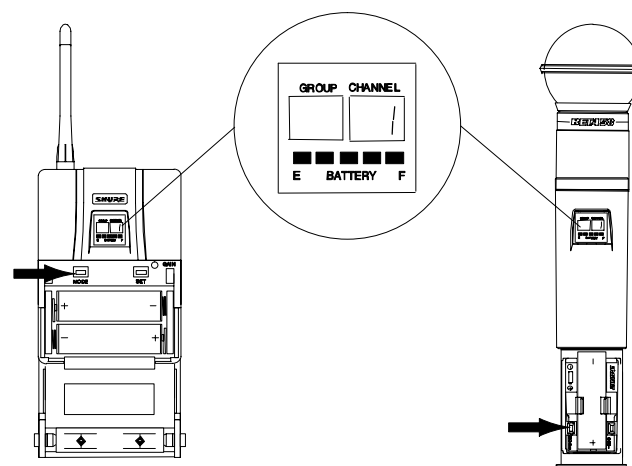

FIGURE 40
5. Press the MODE button again so that only the Channel number is displayed, as shown in Figure 40.